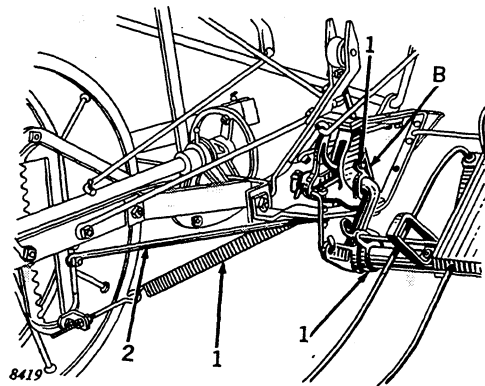

Figure 93
1. (Figure 93) If binder is set up and regular bundle carrier attached, remove regular bundle carrier, bundle carrier return spring, pipe crank, and swivel casting assembly; also lower support rod for swivel casting "B," Figure 93.
2. (Figure 93) Discard brace from lower support for swivel casting to sector.